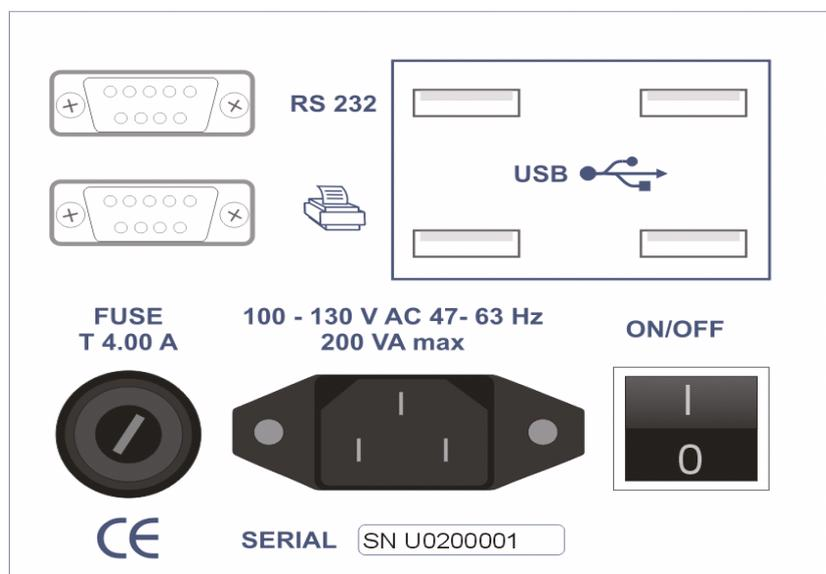

Fig. 5
After the connecting the power cable to the electrical network and turning the power on using <On/OFF> switch (see Fig. 5) the device start its work with a procedure that checks all critical components (power block, sensors etc.) and also deleting of obsolete files from the build-in SD card - data collection files, error log files and diagnostic files (see items 5.4.7.1, 5.4.7.2 and 5.4.7.3).